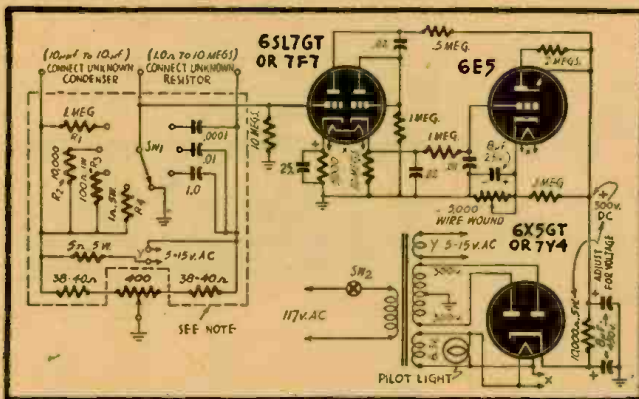

Fig. 2—Three-tube condenser checker using electron-ray indicator.
**A.** The diagram shown (See Fig. 2) is of a condenser tester which can be built from standard parts. The final accuracy of the finished unit will depend on the accuracy standards and care used in calibrating the 400-ohm potentiometer, which should be a wire-wound type. The components inside the dashed-line square should be of the highest accuracy, those outside this area being ordinary circuit components and requiring no more than ordinary tolerances, say 5 to 10 percent.